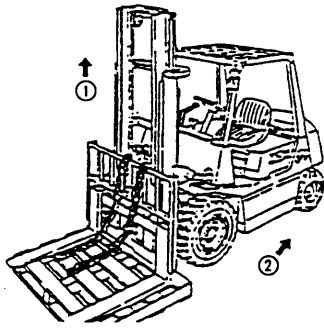

Fig8.5
(1) Place a pallet on the forks and let the truck parking on the horizontal ground.
(2) Make the forks and the pallet down to the ground.
(3) Disassemble the end nipple of the upper chain and take the chain down from the sheave.
(4) Lift the inner mast (See Fig8.5 ①).
(5) Make the truck back-up if the lift bracket is fully separated from the outer mast. (See Fig8.5 ②)
(6) Replace the main rollers.